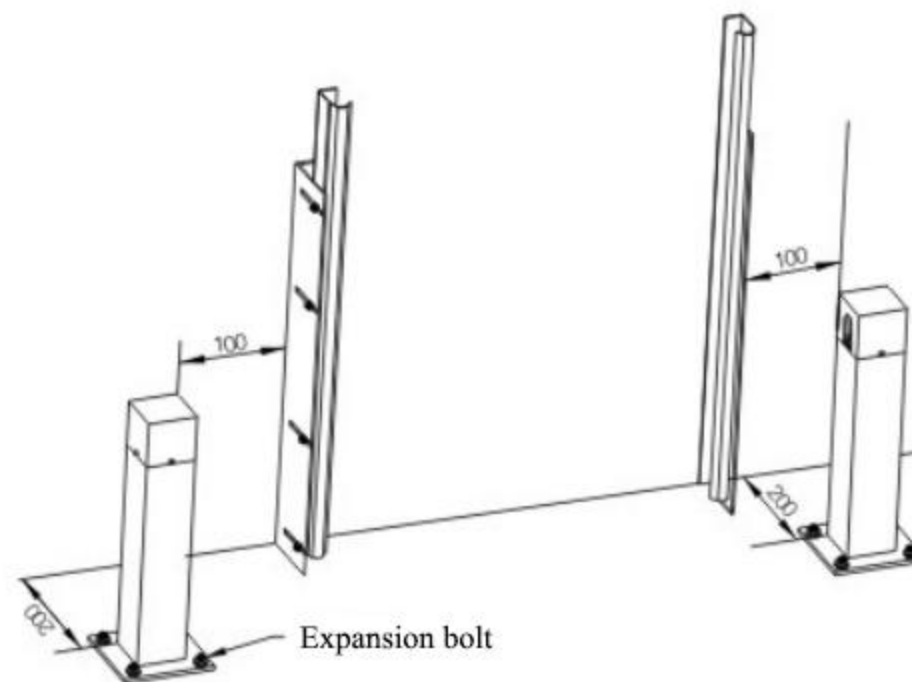

Figure 14-1
14.1 Fix the photoelectric switch fixing column with expansion bolts on the ground 100mm outside the left and right vertical guide rails and 200mm away from the wall, and the distance error is not greater than 5mm; (Figure 14-1)